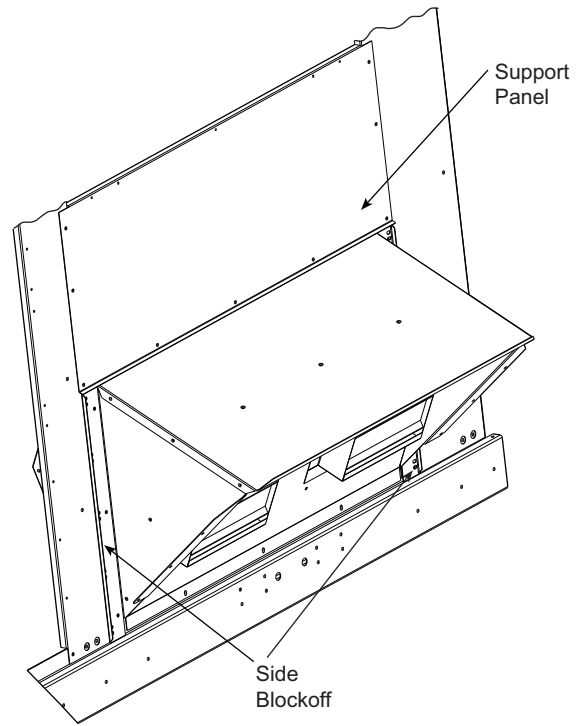

Fig. 2 — Support Panel Installation
- Install top support panel (provided). Use 3 screws on each side and 5 screws across top previously removed from existing upper panel. If removed in Step 3, install 3 screws on economizer sides and replace economizer filter. See Fig. 2.